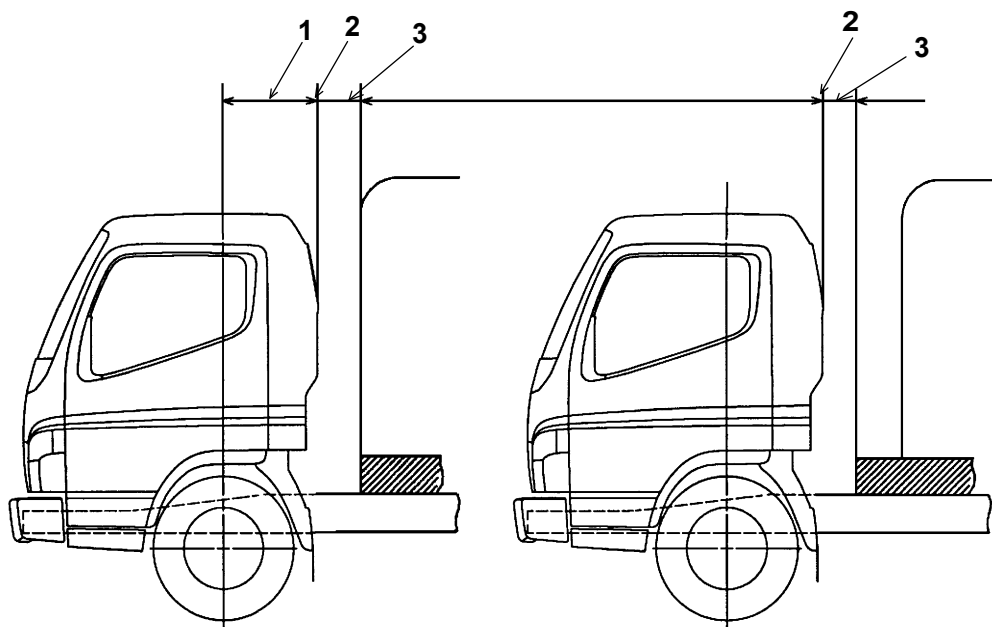

Fig. 1
- Install the sub-frame as shown in Fig. 1 to gradually reduce the stress concentrations in the front end. The front end of the sub-frame should be installed as close to the rear of the cab as possible. Extend the sub-frame as far toward the cab as possible when the rear body is installed far from the cab.